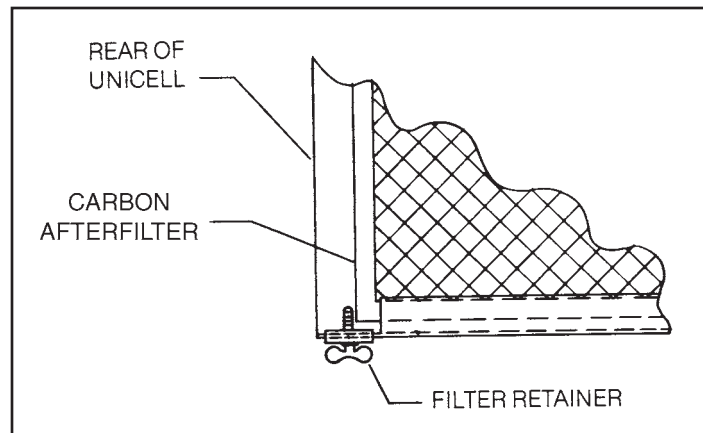

FIGURE 15
- Remove the carbon afterfilter by loosening filter retainer screw and sliding filter from the rear of the cell (see Figure 15).